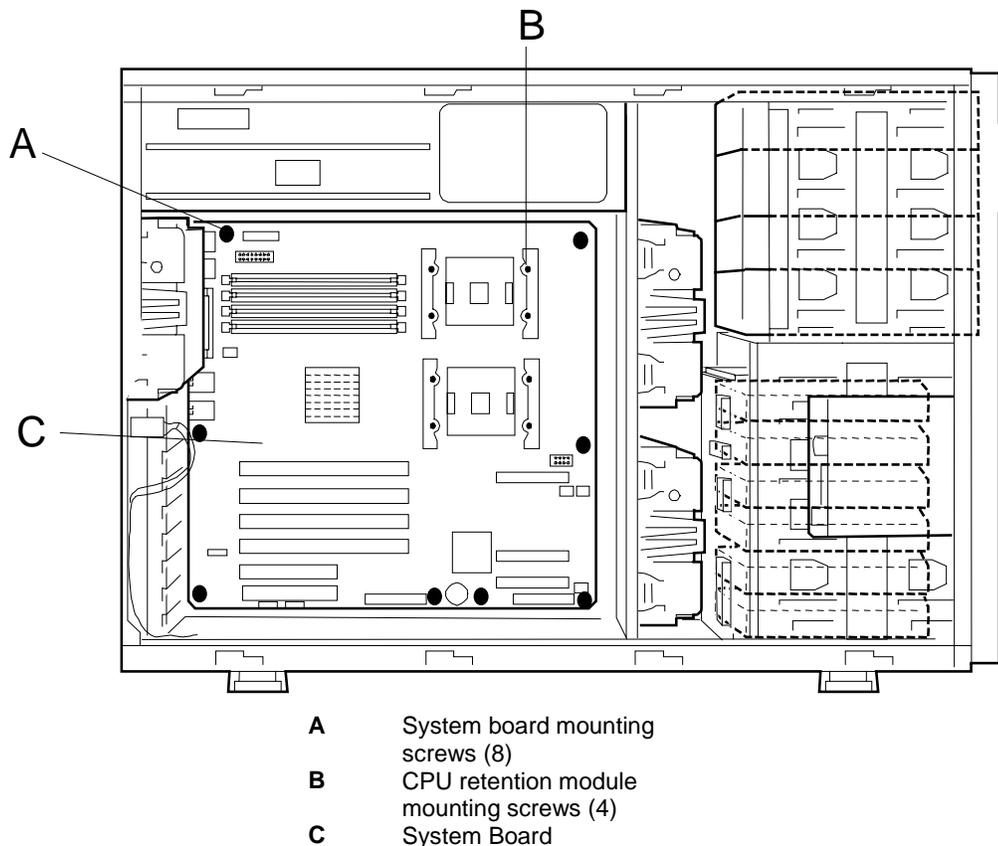

Figure 4-55. Removing the System Board and Retention Modules
13. Remove the eight screws securing the system board to the chassis. See Figure 4-55, A. Save the screws for reassembly.
15. Remove the four screws securing each CPU retention module and remove the module for use on the replacement system board. See Figure 4-55, B. Note that the CPU retention module reinforcement brackets are located on the back of the system board and will become loose once the screws are removed.